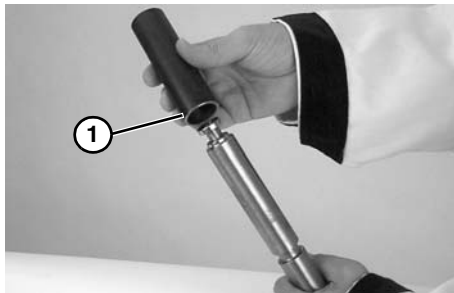

Figure 60
4. Slide sleeve (**Figure 60, item 1**) of tool over bearing.